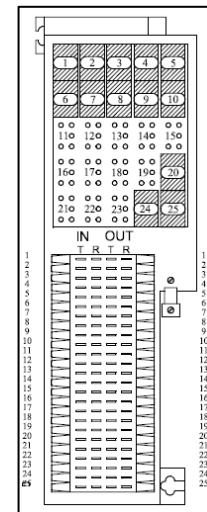

Fig. 2
1.5.1 Punch incoming copper pairs onto the right-hand side of the 25-pair solid state protector block. See Figure 2. The “Out” side of the protector block always “points” to the world outside of the HVI, be it in the substation (Control House) or in the network (PSTN). The pre-installed protector block is pre-connected to ground bar installed on the backboard. Refer to Section 1.2 for notes on grounding.